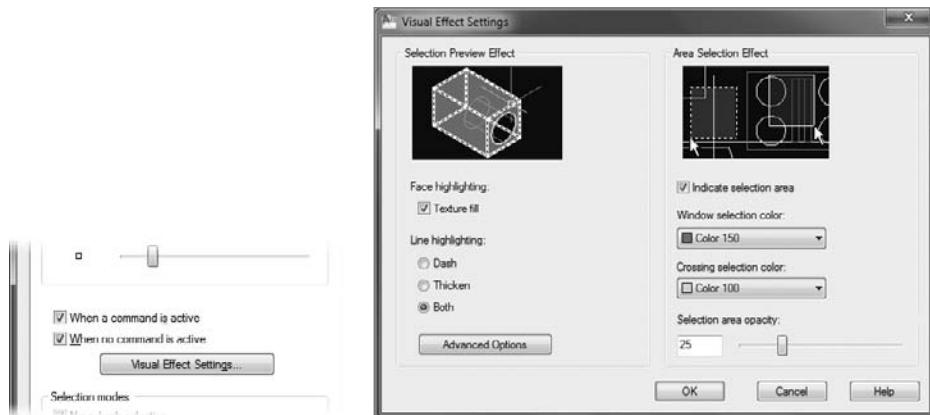

FIGURE 2.17 The Selection Preview area of the Selection tab in the Options dialog box (left) and the Visual Effect Settings dialog box (right)
2. Click the Selection tab. Notice the Selection preview area in the middle of the left side (see Figure 2.17, right). Here you can activate or deactivate the check boxes to control whether rollover highlighting occurs when a command is running or when no command is running. If both check boxes are checked, the feature works all the time.
3. Click the Visual Effect Settings button below the check boxes to open the Visual Effect Settings dialog box (see Figure 2.17, bottom). There are two areas: Selection Preview Effect and Area Selection Effect. The Selection Preview Effect area controls how the rollover highlighting